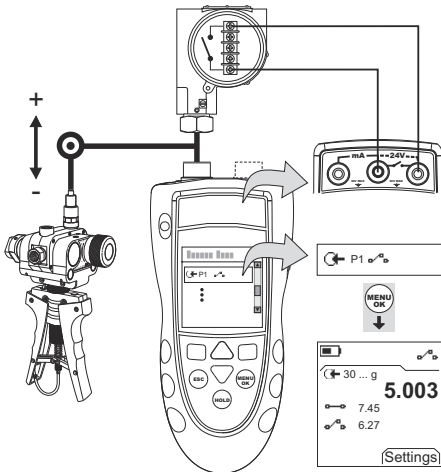

Figure 4: Example Configuration - Switch Test
- Connect the instrument (Figure 4) and, if necessary, adjust the Set Up (Table 1).